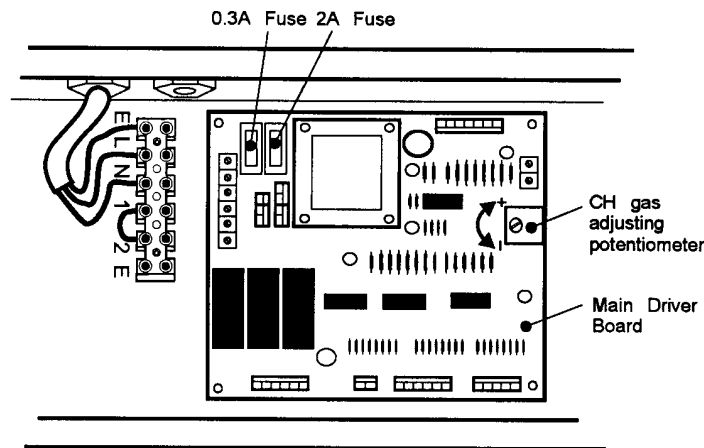

Fig. 15
**Note:** The maximum burner pressure in the central heating mode is adjusted by means of the potentiometer (see Fig. 15) on the main driver board, the pressures given in section 1.2 can only be achieved if the burner minimum and maximum pressures have been correctly set first on the gas valve. To gain access to the main driver board - Remove the four screws securing the control box top cover. Slide the cover back and up to remove it from the control box.